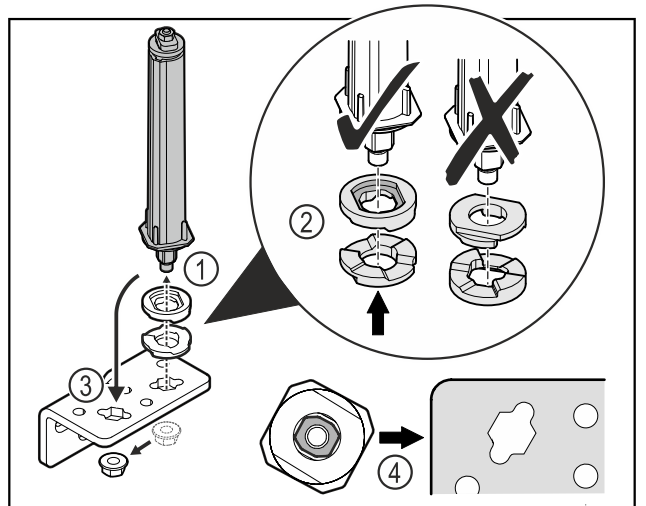

Fig. 23
- ▶ Loosen the nut and remove the door closing system Fig. 23 (1).
- ▶ Observe the correct alignment of the height adjustment washers Fig. 23 (2).
- ▶ Put the door closing system in the hinge and fix in place with the nut Fig. 23 (3).
- ▶ Observe the correct alignment of the door closing system when doing so Fig. 23 (4).